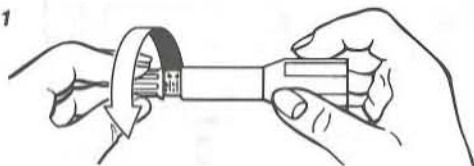

FIG 2
2. Refer to Table 1 – note the depth adjustment scale mark for your particular syringe and screw the depth adjuster in (or out) until this scale mark is in line with the end of the syringe housing (Fig 2). This sets the depth of needle penetration to 6mm.